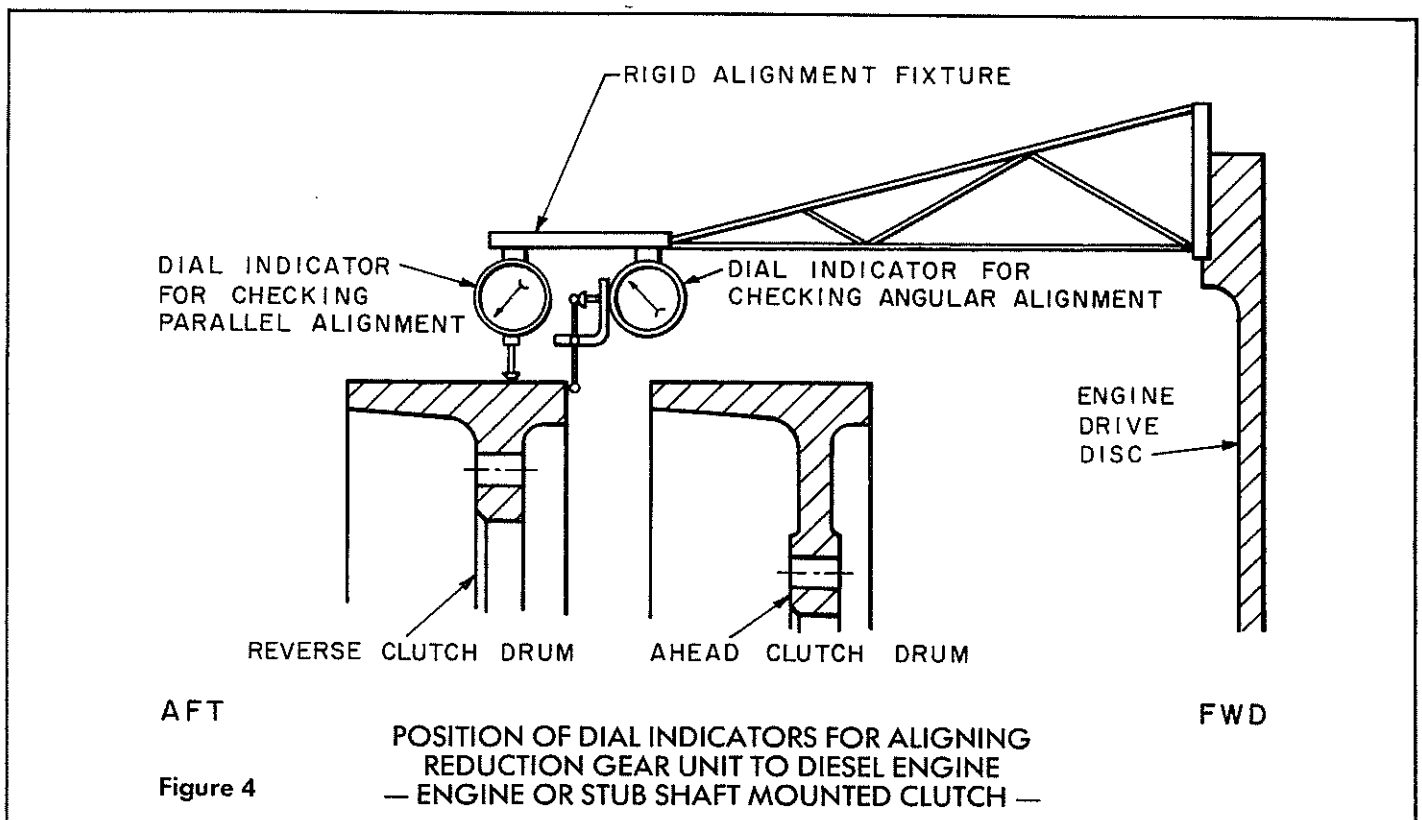

Figure 4
1. After gear is in place and bolted down, and jackshaft and engine are in position in accordance with the engine manufacturer's instructions, move the engine into position until the ahead clutch drum and engine drive disc are the correct distance apart per engine manufacturer's requirements. See Figure 4.
2. Fasten a light-weight rigid alignment fixture to engine drive disc so that the fixture will bridge the space normally occupied by the clutch spacer and ahead clutch. Fasten two (2) dial indicators to the fixture, one to run on the edge of the reverse clutch drum, and the other on the O.D. of this drum as shown in Figure 4 below. The alignment fixture should be secured to the drive disc so that the indicator mounting is at the top with the engine set or adjusted to the manufacturer's recommendation.